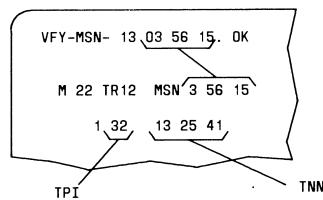

Fig. 18 — Example of TR12 Message
- (1) Compare Form ESS 1229/1230 with TR14 output message data. If TR14 data is incorrect, TNN(s) is not correctly equipped.
- (2) If a TR12 output message (Fig. 18) did not also print, go to Step (3). If the TR12 message was also printed out, determine whether the TR12 data is correct. If not, TNN(s) is not correctly equipped.
- (3) For each supervisory scan point found in the TR14 output message, type
- (4) Determine whether TR12 output message data (Fig. 18) is correct. If not, TNN(s) is not correctly equipped.